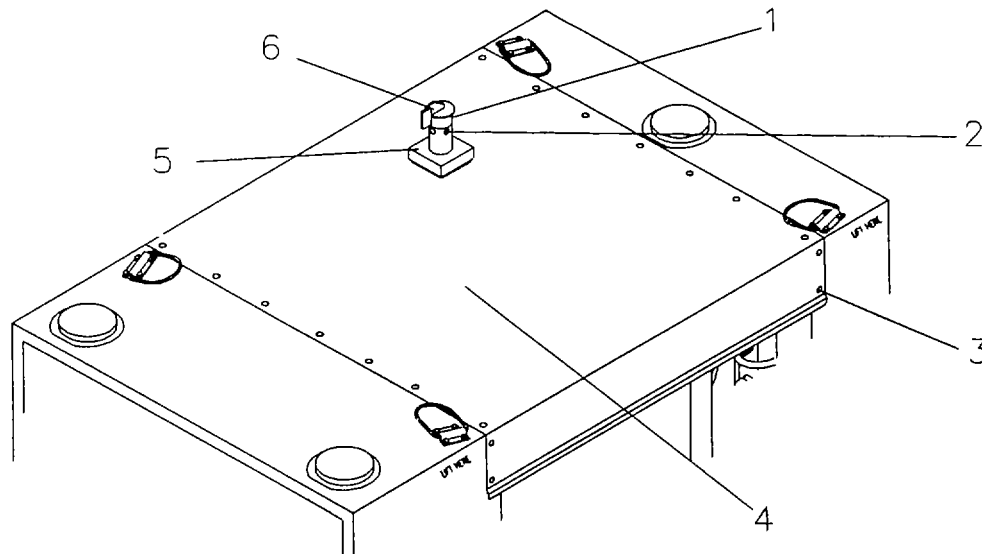

Figure 4-6. Top Cover.
Top cover removed (4, fig. 4-6). Refer to para. 4.16.
a. Removal. Refer to figure 4-6.
- 1) Loosen the clamp bolt (1) on the muffler cap (6) Remove the cap (6).
- 2) Remove the four screws (2) holding the rain shield (5) in place and remove the rain shield
- 3) Remove the twenty two screws (3) holding the cover (4) and lift off the cover. Latex caulking material (item 12, Appendix E) is used as a gasket material on the cover to provide water-tightness.
b. Installation. Refer to figure 4-6.
- 1) To install the cover (4) apply a bead of latex caulk (Item 12, Appendix E) around the seating surface and replace the cover (4) with the 22 screws (3)
- 2) Install the rain shield (5) with the four screws (2).
- 3) Install the muffler cap (6) and tighten the clamp bolt (1).